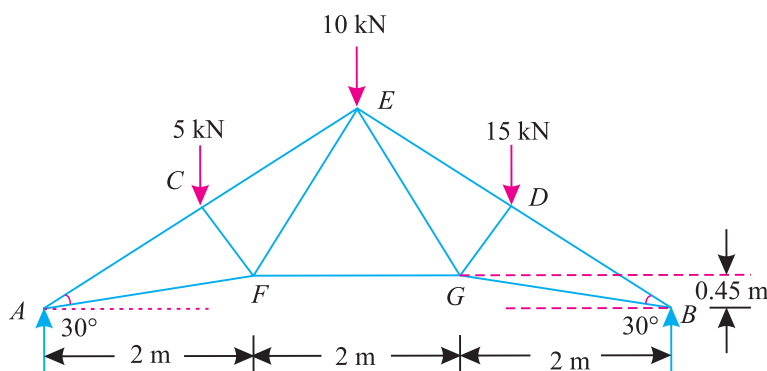

Fig. 13.23.
5. The roof truss shown in Fig. 13.23 is supported at  $A$  and  $B$  and carries vertical loads at each of the upper chord points.